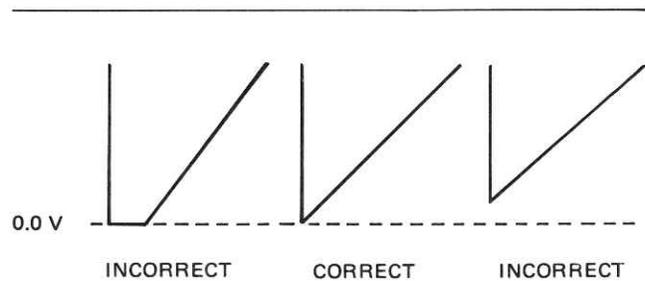

Figure 4-3. Ramp Negative Peak Adjustment
5. Turn the SWEEP/STEP TIME VARIABLE control fully cw. Adjust sweep board potentiometer R72 until the lower peak shows no flattening of the ramps, while still maintaining the lower peak at zero volt (see Figure 4-3).